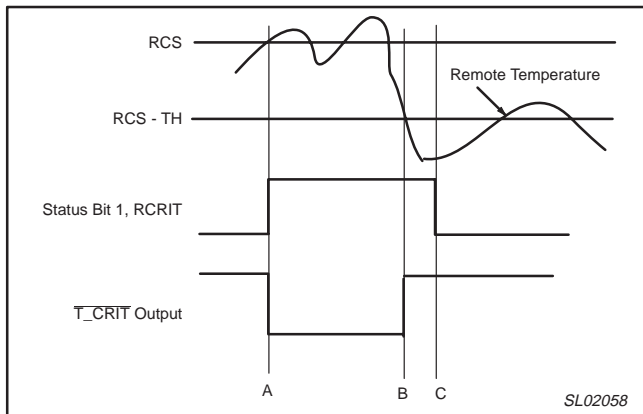

Figure 15. $\overline{T_CRIT}$ temperature response timing diagram
After every local and remote temperature conversion the Status register flags and the $\overline{T_CRIT}$ output are updated. Figure 15 is a timing diagram showing the relationship of $\overline{T_CRIT}$ output, Status bit 1 (RCRIT) and the remote critical temperature setpoint (RCS), and critical temperature hysteresis (TH) with remote temperature changes. Note that the $\overline{T_CRIT}$ output is de-activated only after the remote temperature is below the remote temperature setpoint, RCS minus the Hysteresis, TH. In the interrupt mode only, the Status register flags are reset after the Status register is read.